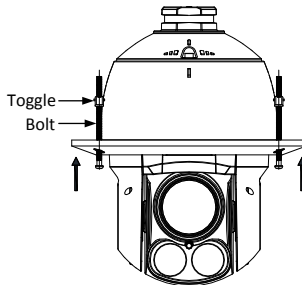

Figure 2-19 Install Toggle Bolts
- 4) Reinstall the toggles as shown in Figure 2-19.